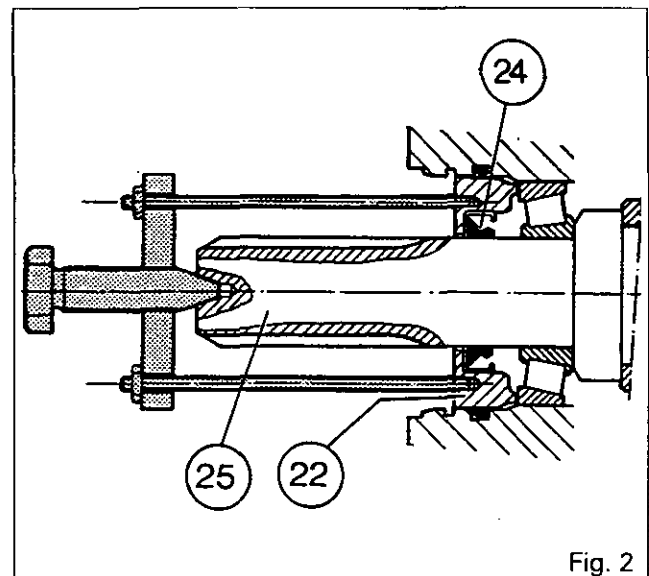

Fig. 2
4. Remove the circlip (23).
5. Protect the splined section of the shaft (25). Extract the cap (22) with its seal (24) using the locally made tool (see section E). Remove the seal (24) (Fig. 2).
6. Remove the O-ring (21).
7. Remove the shims (20) and the cup (18).